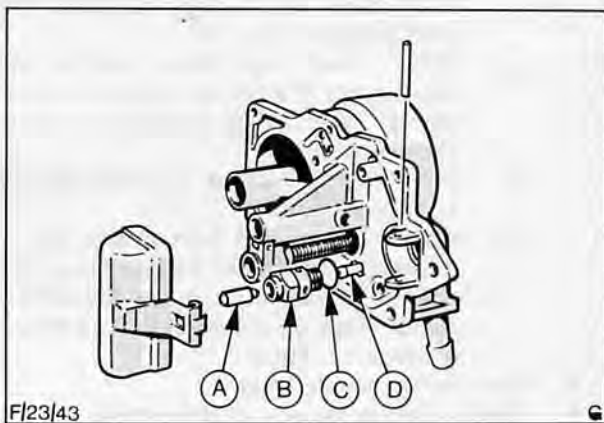

Fig. 49. Needle valve assembly dismantled
8. Tap out float retaining pin and lift out float and needle valve. Unscrew valve housing and detach filter from housing, Fig. 49.